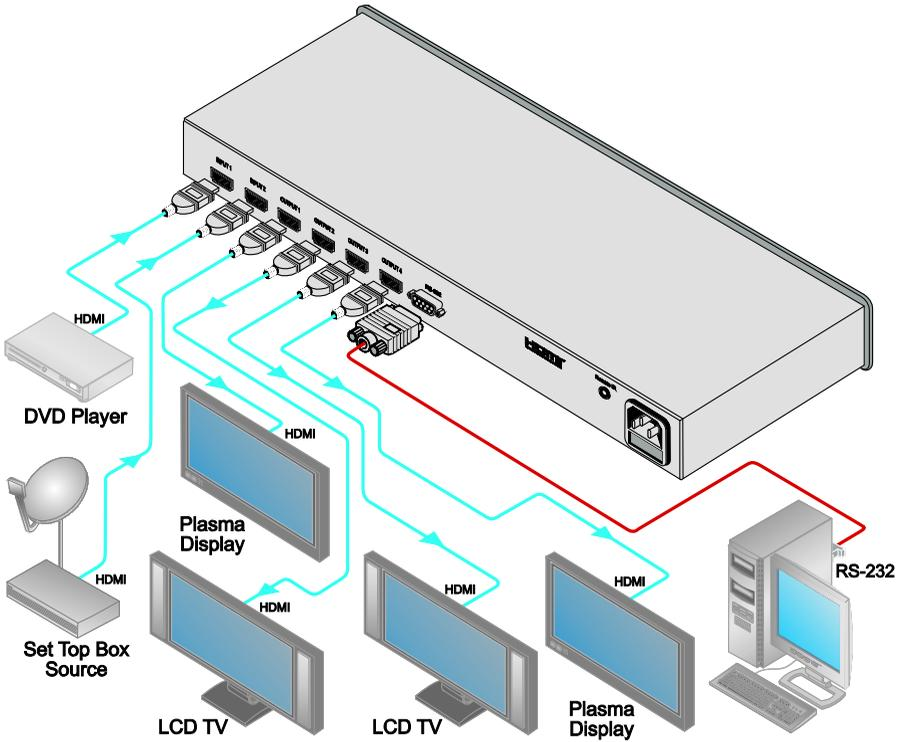

Figure 2: Connecting a VM-24H 2 Input 1:4 HDMI Distributor
To connect the **VM-24H**, as illustrated in the example in Figure 2, do the following1:
4. Connect the power cord to the mains electricity (not shown in Figure 2).
4 Only connections from the first two acceptors and the last two acceptors are shown in Figure 2